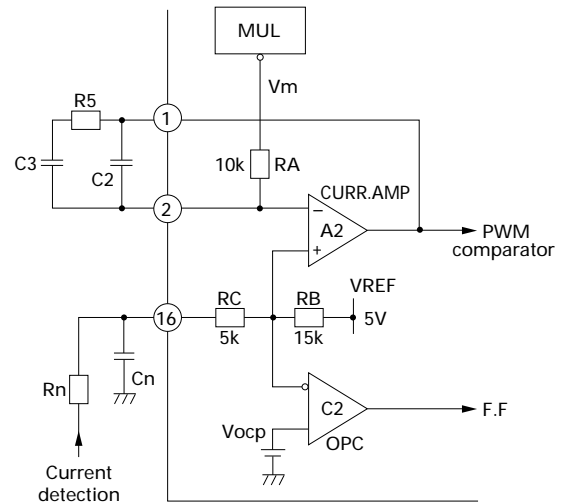
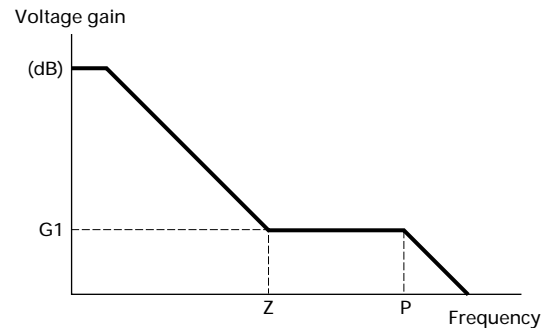

Fig. 3 Current error amplifier and overcurrent limiting circuit
Fig. 4 Voltage gain-frequency
The current error amplifier forms a current loop to change the input circuit current into sinusoidal waves. As Fig. 3 shows, the multiplier output is connected to pin 2 (IIN -) through a resistor (RA) to input the reference current signal. Pin 16 (IDET) is a current input terminal. Design the circuit so that the voltage at pin 16 will be within the range from 0 (GND potential) to -1.0V. Connect a phase correction resistor and capacitors across pin 1 (amplifier output) and pin 2. See Fig. 4 for the expected gain characteristics of the circuit shown in Fig. 3.
As Fig. 3 shows Vm is internally connected to pin 2 (IIN-) of the current error amplifier A2 through a 10kΩ resistor. (See the characteristic curve, page 67 for the input and output characteristics of the multiplier.)